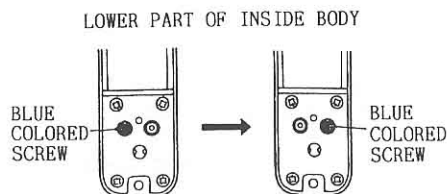

Fig 3
- : Remove the blue screw on the backside of the inside body and install it into the opposite hole, tighten. ( see Fig 3)